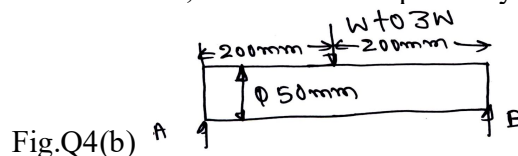

Fig.Q4(b)
- b. Determine the maximum load for the simply supported beam, cyclically loaded as shown in Fig.Q4(b). The ultimate strength is 700 MPa. The yield point in tension is 520 MPa and the endurance limit in reversed bending is 320 MPa. Use a factor of safety of 1.25. The load, size and surface correction factors are 1, 0.75 and 0.9 respectively. (15 Marks)